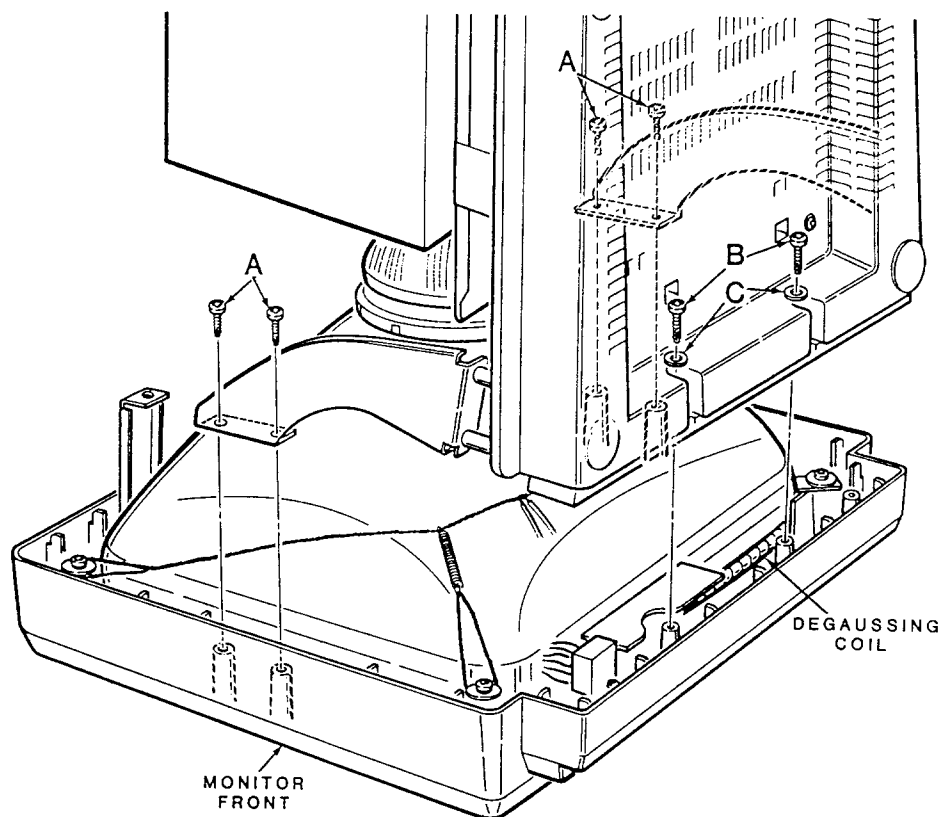

Figure 3-22. Monitor Front Removal
7. Remove the four 1/2-inch phillips thread-forming screws labeled A, the two 1/2-inch phillips thread-forming screws labeled B, and flat washers labeled C in Figure 3-22.
8. Lift the monitor straight up and away from the monitor front, as shown in Figure 3-22, and set the monitor down next to the monitor front.